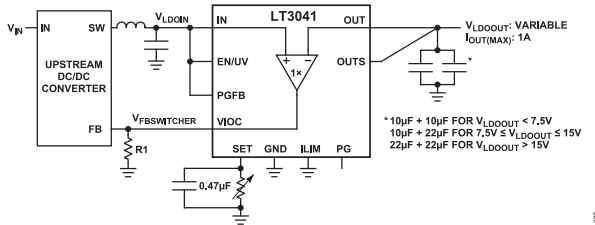

Figure 79. VIOC Basic Operation (V_{LDOIN} is the LDO Input Voltage, and V_{LDOOUT} is the LDO Output Voltage.)
The VIOC pin controls an upstream switching converter (for example, buck, boost, or buck-boost) to maintain a constant voltage across the LT3041, regardless of the output voltage of the LDO regulator. This constant voltage maximizes efficiency while maintaining PSRR performance. The VIOC pin is the output of a fast unity-gain amplifier that regulates the IN voltage to a voltage that is a fixed offset above the higher of OUT or 1.5 V. As shown in Figure 79, the VIOC feature is simple to use. Connect the VIOC pin to the feedback (FB) pin of the upstream switching converter ($V_{FBSWITCHER}$), which regulates the input-to-output differential of the LT3041 to the feedback voltage of the switching converter. When paralleling multiple LT3041 devices, connect the VIOC pin of one of the LT3041 devices to the feedback pin of the upstream switching converter and float the remaining VIOC pins.